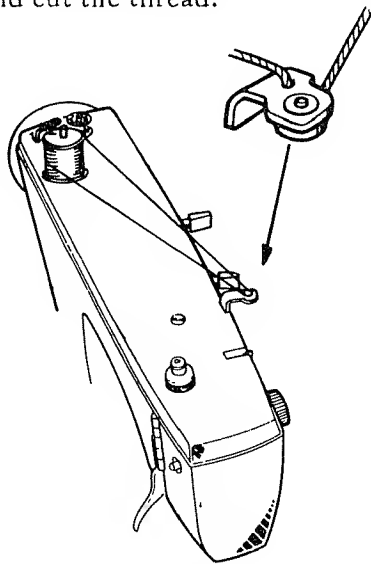

Fig.2
- 4) Pass the thread through the thread guides then between the disks. (Fig. 2)